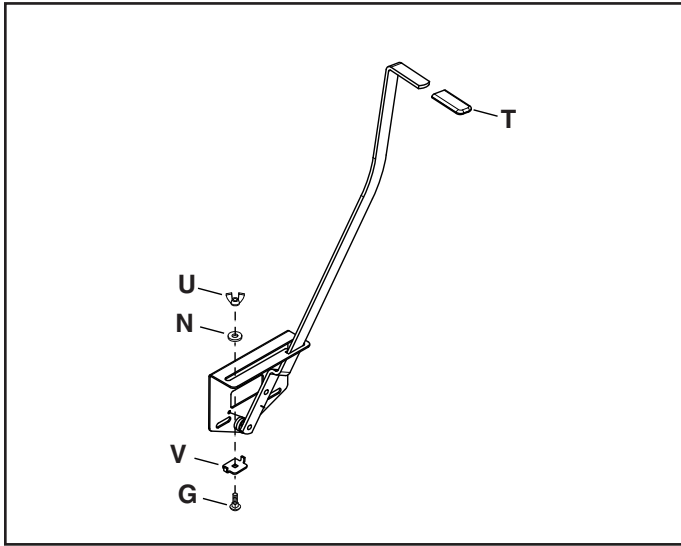

FIGURE 9
STEP 9: (SEE FIGURE 9)
- Install the grip (T) onto the flow control arm.
- Assemble the adjustable stop (V) to the flow control bracket using the 1/4" x 3/4" carriage bolt (G), nylon washer (N) and wing nut (U).